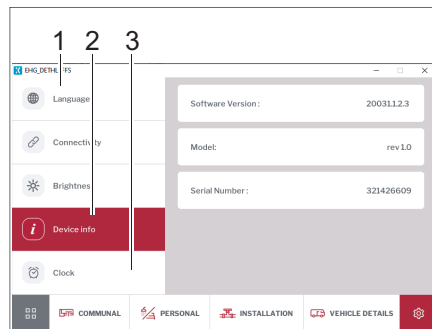

Fig. 271 Language, device information, time
- Click on the *Language* (Fig. 271,1) button and set the desired display language.
- Click on the *Time* (Fig. 271,3) button and set the time.
- Click on the *Device Information* (Fig. 271,2) button. Information on the device (software version, model and serial number) will be displayed.